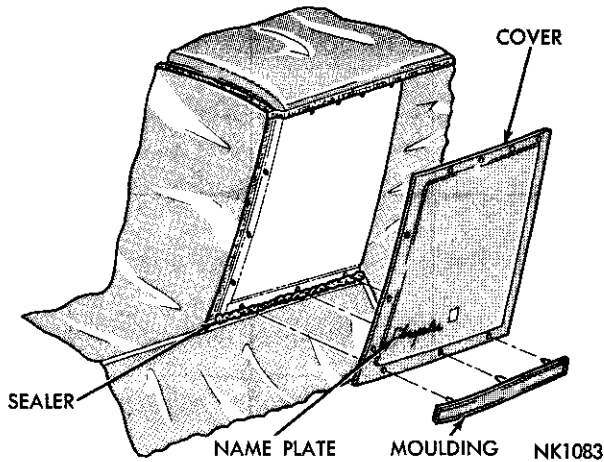
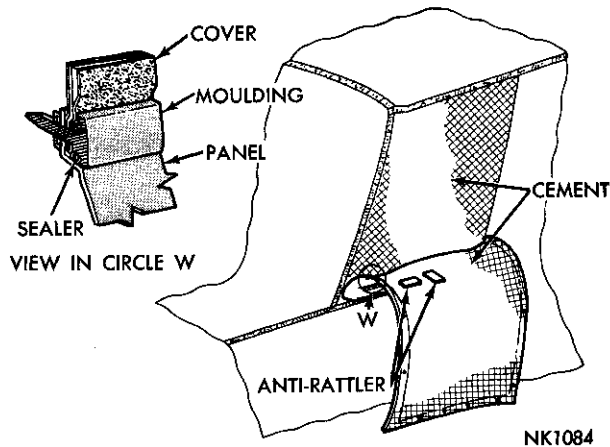
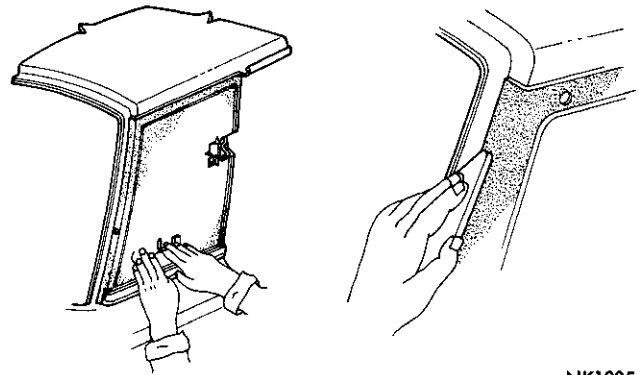

Fig. 178—Sealing the Roof Extension Panel (Chrysler)
Fig. 179—Installing Sealer Anti-Rattlers
Fig. 180—Positioning Cover on Extension Panel
(24) Apply a 1/4 inch bead of sealer along the belt line below the moulding holes (Fig. 178).
(25) Install the cover on the moulding and install the moulding on the roof side panel.
(26) Install sealing strip anti-rattlers to the rear of the cover at the medallion and nameplate areas (Fig. 179).
(27) Apply an even coat of cement to the roof side panel and to the rear of the cover material.
(28) When material becomes tacky to the touch, position the cover on to the side panel, aligning holes in top of cover to holes in the roof side panel.
(29) Smooth out all wrinkles and apply pressure to the nameplate and medallion to effect a good seal.
(30) Press the front and rear edge of the cover into the "C" pillar and down into the face of the rear window reveal (Fig. 180).